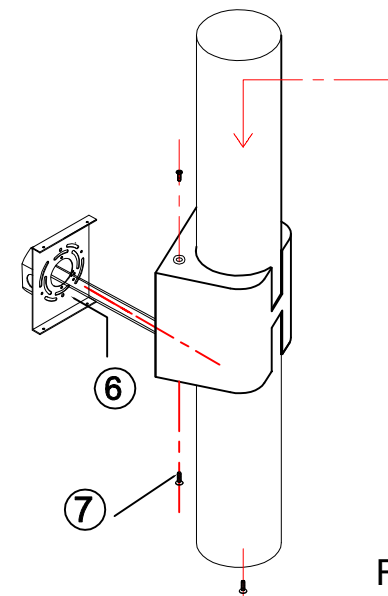

Fig.3
7. Place the fixture over the mounting bracket. Install the four screws on top/bottom of fixture housing to secure it to the wall (Fig.3).